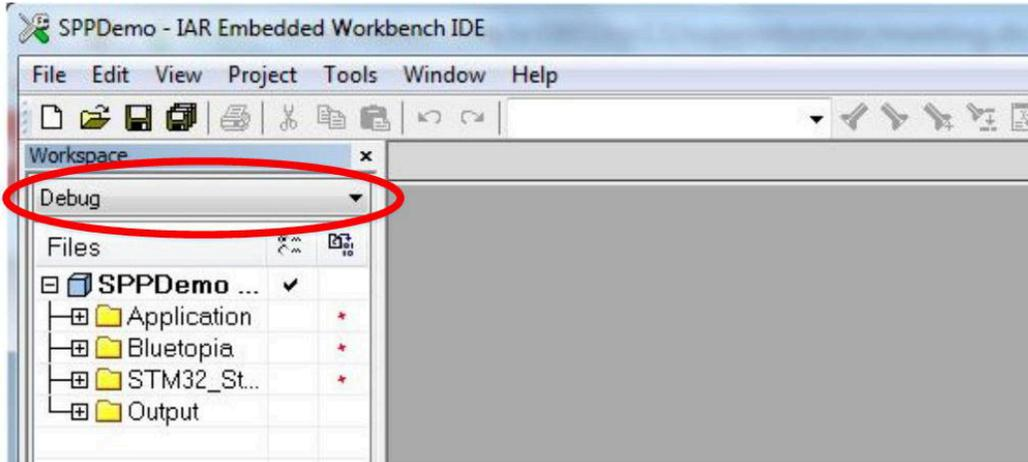

Figure 7-1. IAR Drop-Down Menu
7. Select *Debug* (see Figure 7-1) or *Release Configuration* from the drop-down menu. (For this example, select *Debug*.)